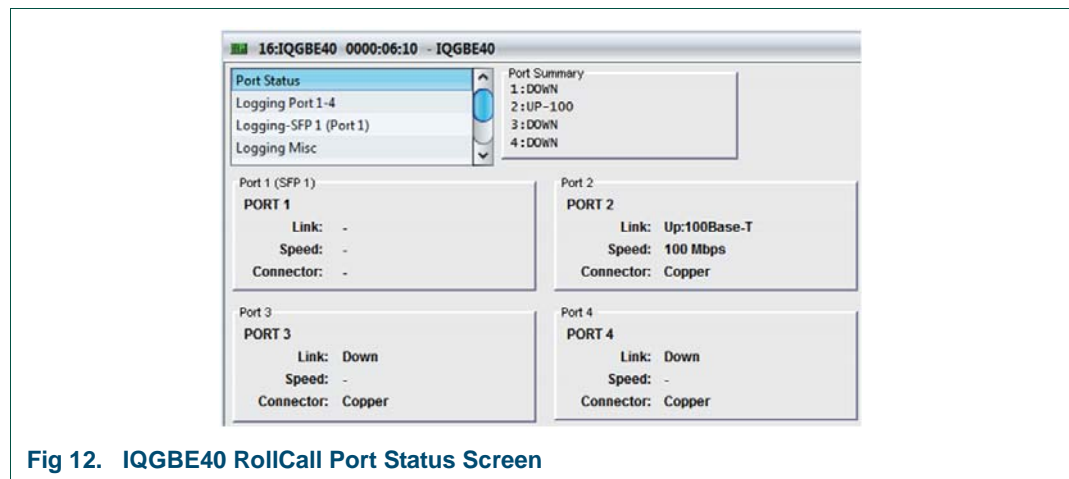

Fig 12. IQGBE40 RollCall Port Status Screen
For IQGBE40, 4 ports are shown in Fig 12.
**Note:** In Fig 12. SFP1 is not present, so that the status for Port 1 fields are shown as "-".